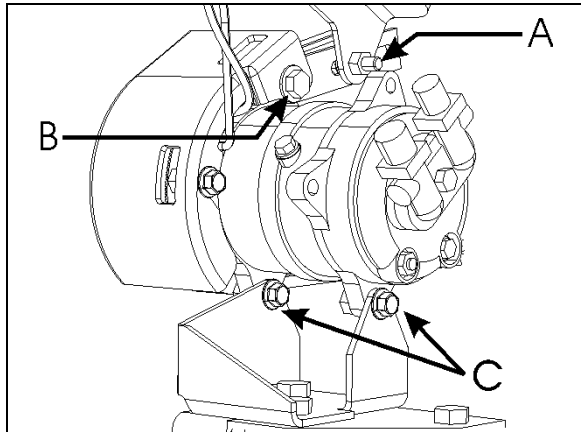

FIGURE 38: COMPRESSOR REMOVAL OR INSTALLATION 22349
- \* Slacken bolts A (Refer to figure 38).
- \* Remove bolts B & C (Refer to figure 38).